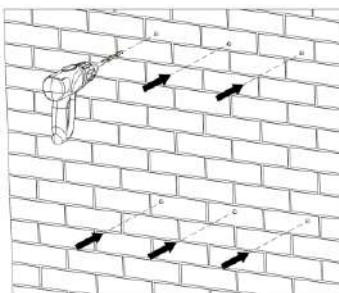

Figure 4.9 Drilling
- (2) Drill 6 installation holes on the wall with electric drill. As shown in Figure 4.9.